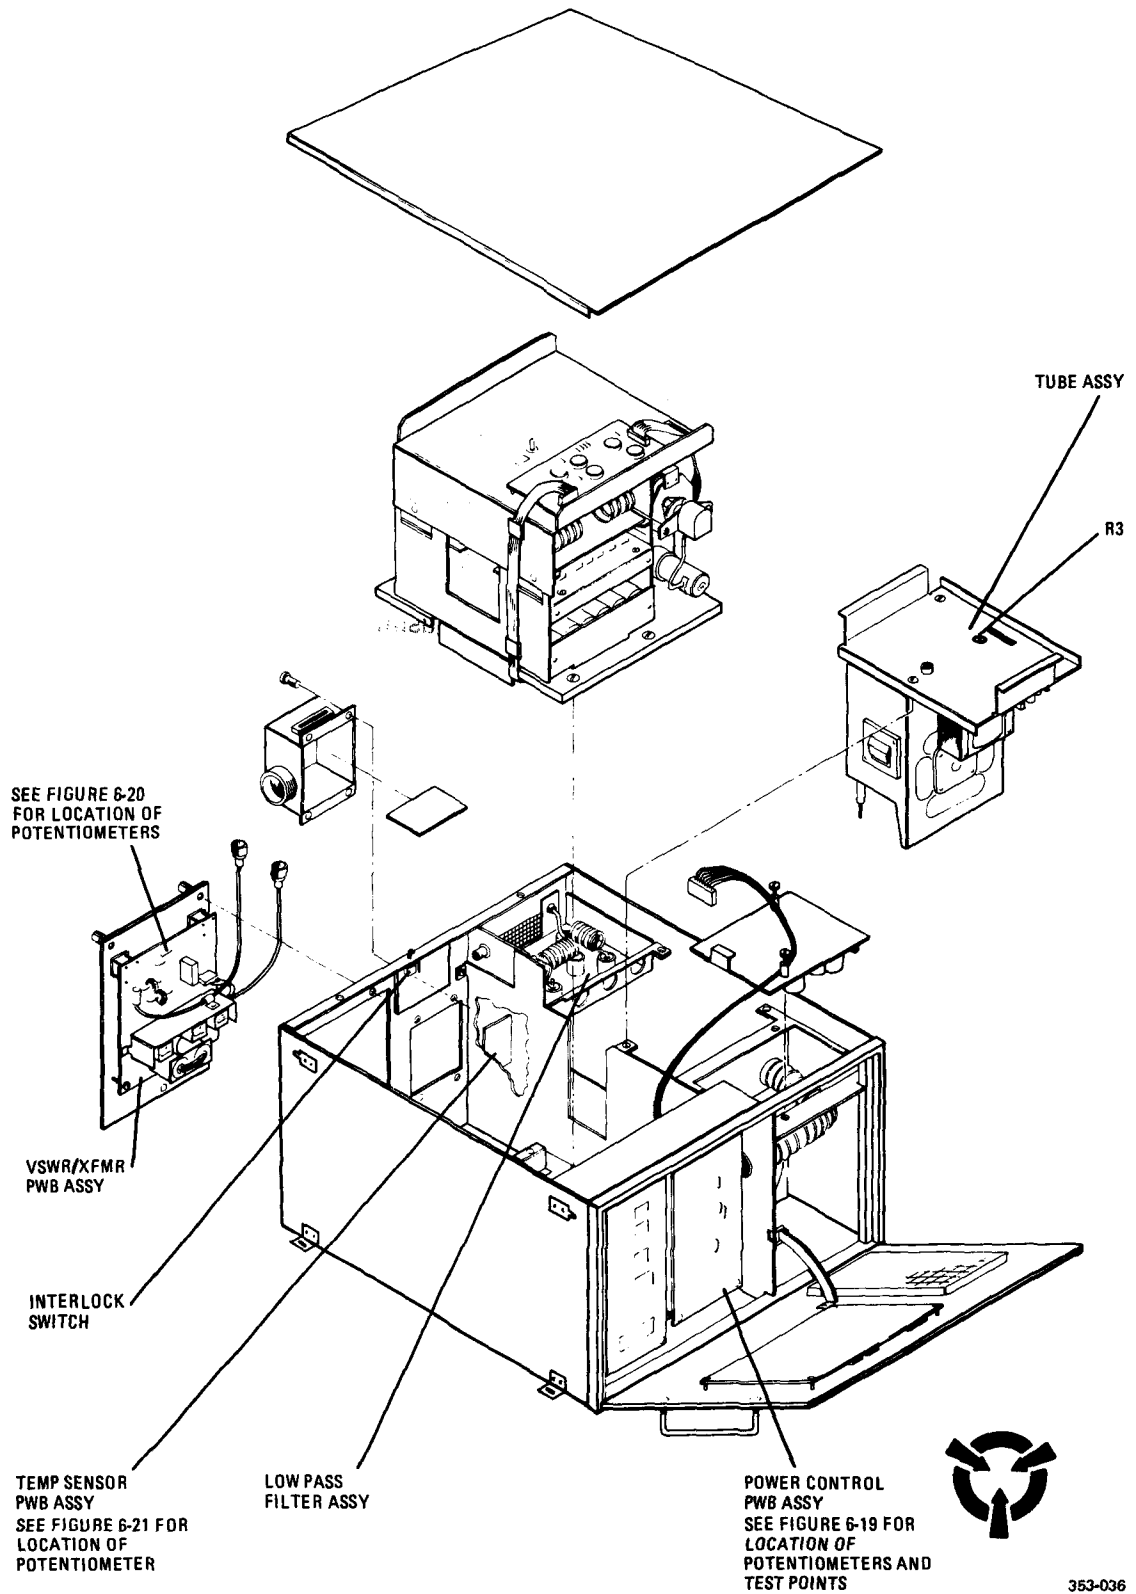

Figure 6-18 1 KW LPA
- (3) With the LPA in warmup (for a cold LPA) or standby (for a hot LPA), connect a digital multimeter between test points TP9 and TP10 on the Power Control PWB Assy.
- (4) If the voltage on the multimeter is 0 ± 2 mV, no adjustment is necessary. If not, adjust R2 (R2 is accessible through the rear grille of the LPA--see figures 6-18 and 6-21) until the voltage is within the limits.
- (5) Re-install JMP1 on the Power Control PWB Assy.